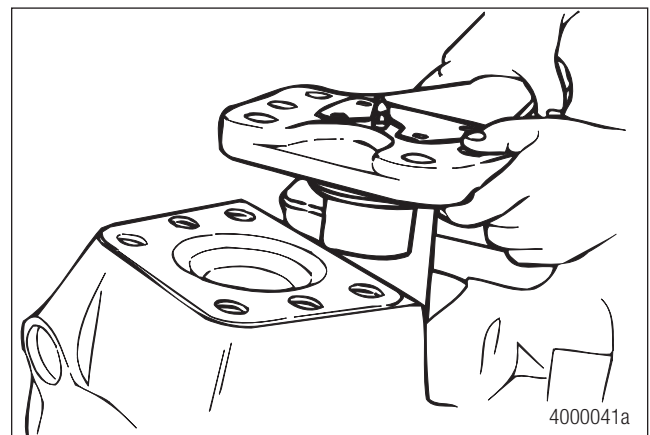

Figure 4.24
4. Remove the air chamber mounting bracket. Remove the upper knuckle cap from the bore. Figure 4.24. Inspect the cap for wear and damage. Replace damaged or worn parts.